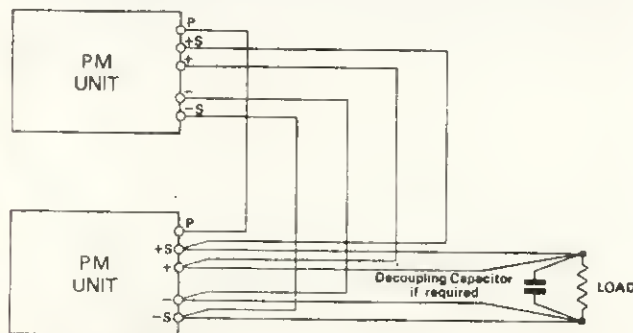

Fig. 8 Parallel Operation
3.8.1. Up to a maximum of 5 modular power units can be operated in parallel (or 3, 20A units) and should be connected as shown in Fig. 8. For best voltage regulation terminal 6 of TB3 on each unit (labelled 'P' on the circuit diagram) should be returned to a common point and four-terminal sensing used as described in Section 3.10 — but this is not essential.